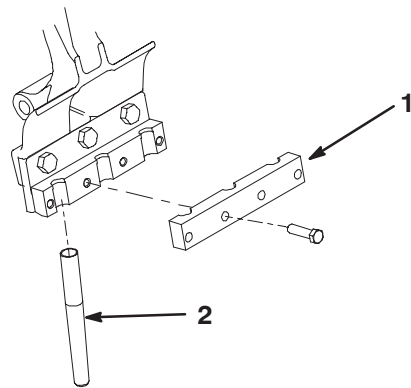

Figure 26
4. Loosely install a tine clamp to each tine holder with (4) 3/8 x 1-1/2 in. capscrews. (Fig. 26) Do not tighten capscrew.